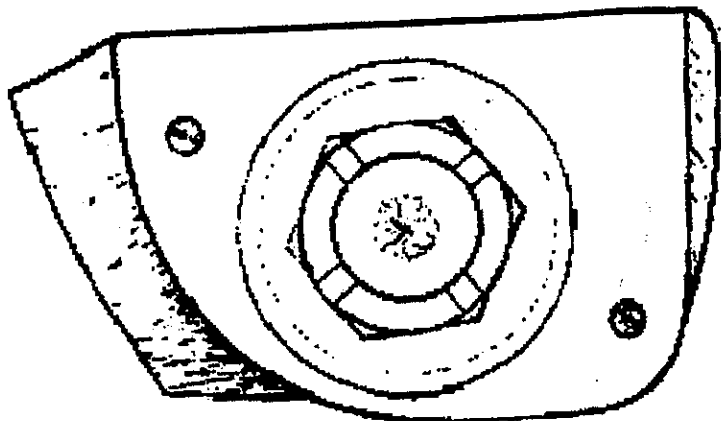

Fig. 1
3. Using red loctite on allen bolt and mating surface, install drive gear to end of cam, with pin properly engaged in cam end notch. Coupling slot position must be close to the same ( $\pm 9^\circ$ ) as in Fig. 1. If not, remove drive gear, turn small gear three teeth, and reinstall drive gear. This will change position  $18^\circ$ . NOTE: Gear insert has two holes; by installing small pin in the other hole, you can make a half-tooth change, effectively giving you a  $9^\circ$  change. Install gear cavity gasket, plate, and screws.